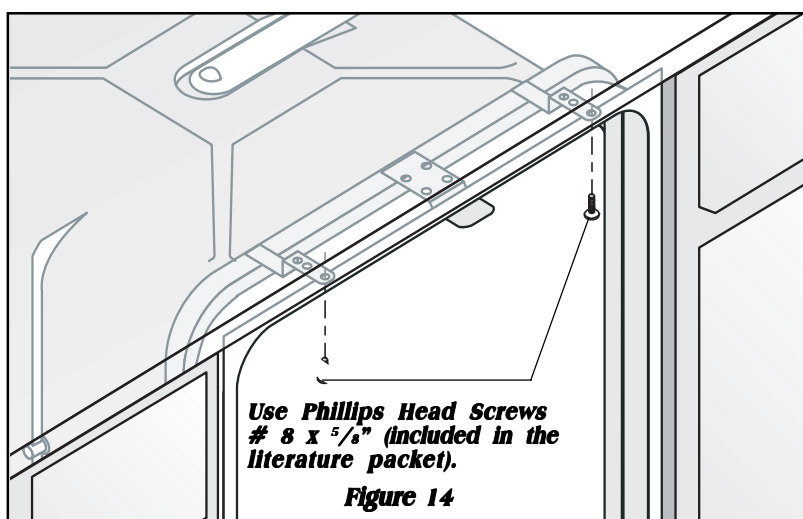

Figure 14
3. Adjust levelers (see Step 5) so mounting brackets touch underside of countertop. **IMPORTANT:** Dishwasher must rest on floor—do not hang from countertop. See Figure 14.